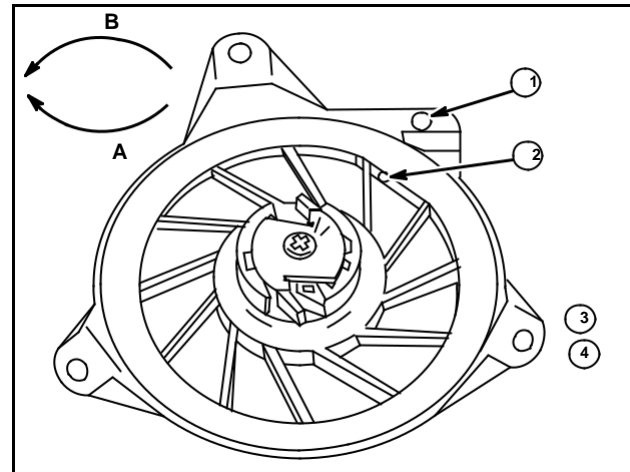

Fig. 39
1. Turn pulley counterclockwise (B) until spring is wound tightly, Fig. 39.
2. Then rotate pulley CLOCKWISE (A) until rope hole in pulley is in line with starter housing eyelet (1) and hold pulley, Fig. 39.
3. Insert unknotted end of rope through knot cavity and rope hole (2) in pulley.